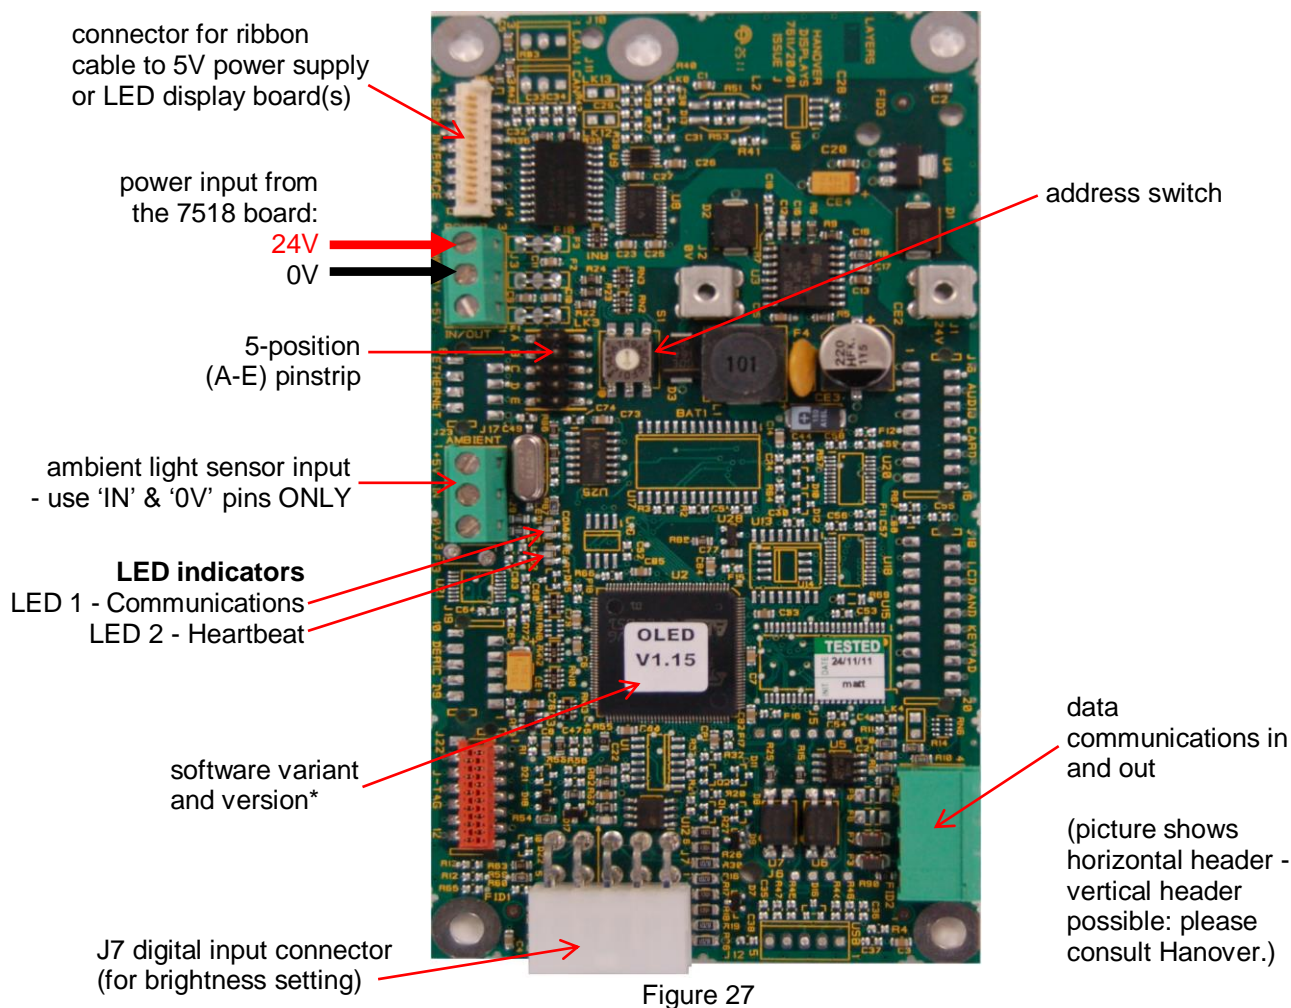

Figure 27
**Note:** connections are in like-for-like positions, i.e. the second terminal down in the right-hand column on the left of the connector corresponds to the second terminal down in the right-hand column on the right of the connector (see Figure 27 below).